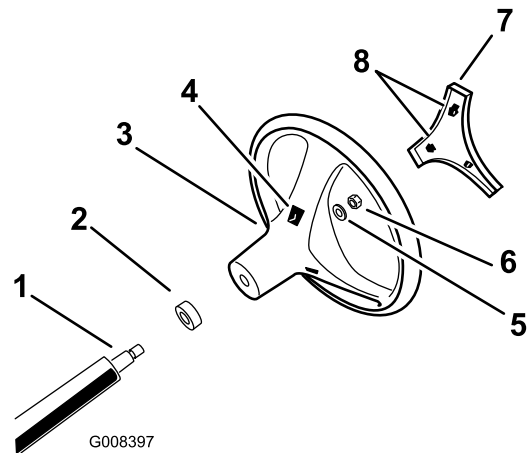

Figure 3
- Through the openings in the back of the steering wheel, release the lock tabs of the center cover and remove the cover from the wheel (Figure 3).
- Remove the lock nut and washer from the steering shaft (Figure 3).
- Align the steering wheel onto the splines of the steering shaft (Figure 3).
4. Assemble the washer and lock nut threads of the steering shaft (Figure 3).
6. Align the lock tabs of the center cover to the openings in the steering wheel and press the cover into the wheel until the locks tabs snap into place (Figure 3).